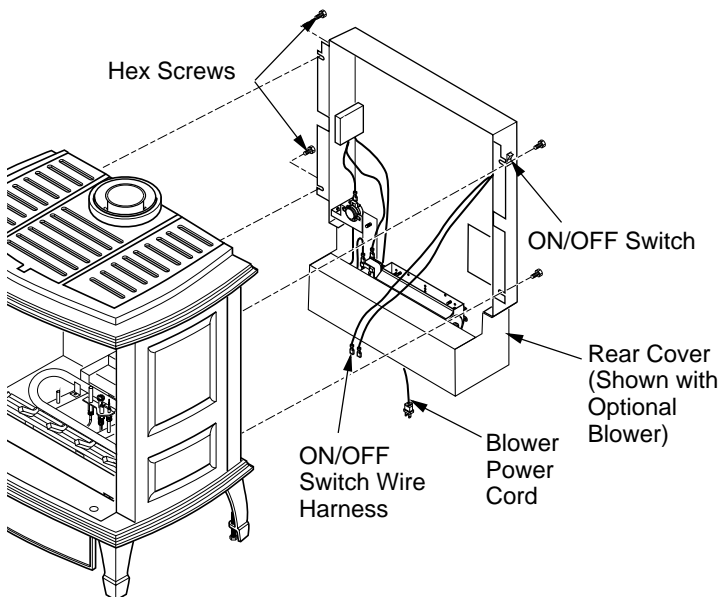

Figure 21 - Installing Rear Cover (Shown with Optional Blower Accessory)
3. Using hex screws provided, attach rear cover to back of stove body. See Figure 21. **IMPORTANT:** This rear cover must be securely in place before venting pipes are installed.